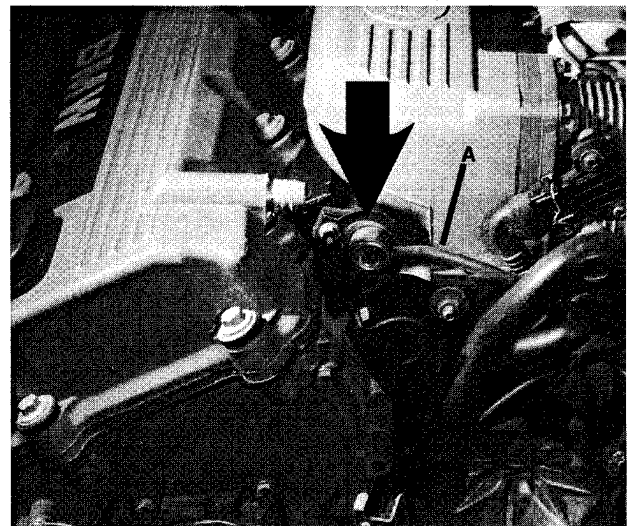

Fig. 19. Fuel pressure regulator (arrow) on M42 engine. Vacuum hose shown at A.
- Disconnect vacuum hose from fuel pressure regulator. See Fig. 19.